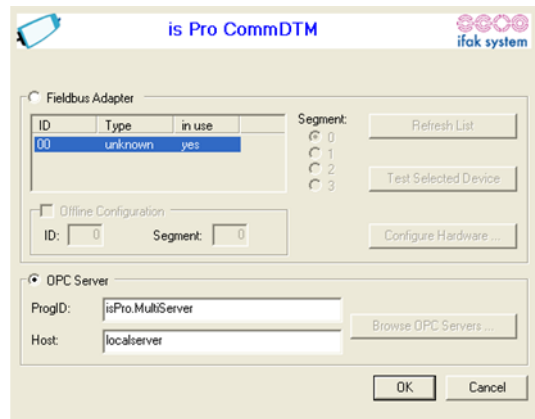

Figure 46. is Pro Comm OPC Server
6. In the Aspect View, use the View Selector  and select the **Channel Selection view**. A screen similar to the one shown in Figure 46 is displayed.